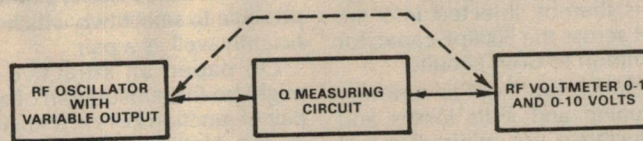

FIG. 3
**BLOCK DIAGRAM.** Fig. 3 shows the essentials of the proposed arrangement. A well-screened tunable RF oscillator with a continuously-variable output, capable of supplying 1 volt RMS to the